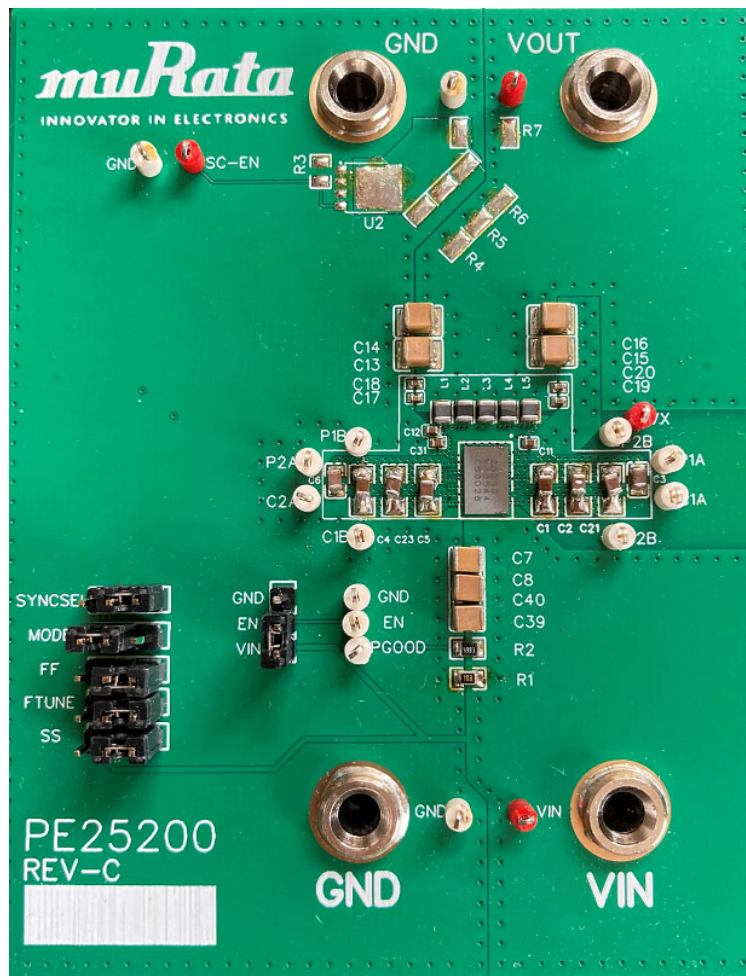

Figure 30. Device Board (EVK)
- Figure 30 shows the assembled device board.